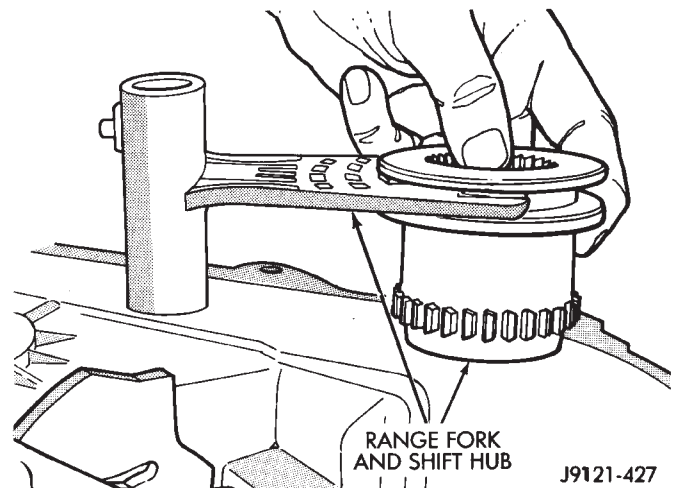

Fig. 43 Assembling Range Fork And Shift Hub
(26) Assemble range fork and shift hub (Fig. 43).